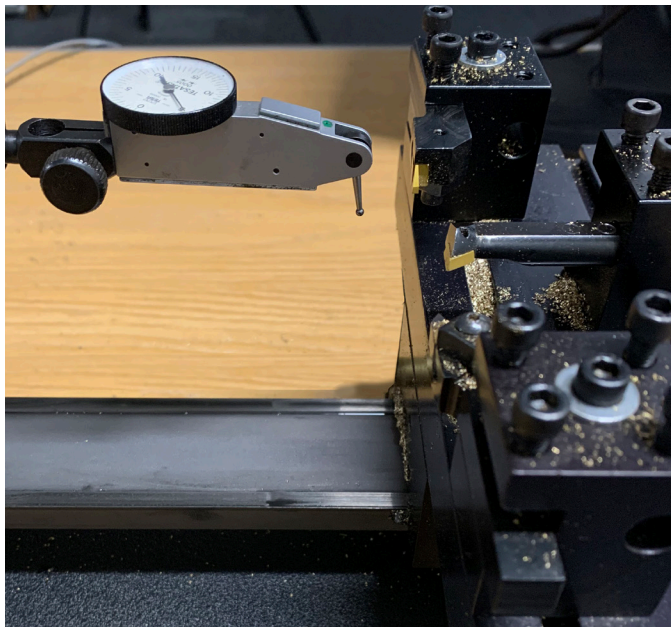

FIGURE 1
3. The tip on your indicator must be as close to 0 degrees or 90 degrees in relation to the indicator body. If you are measuring with your indicator tip at 45 degrees (as an example), the amount that your axis moves will not give you a 1-to-1 reading on your indicator (see Figure 1 for proper tip angle).